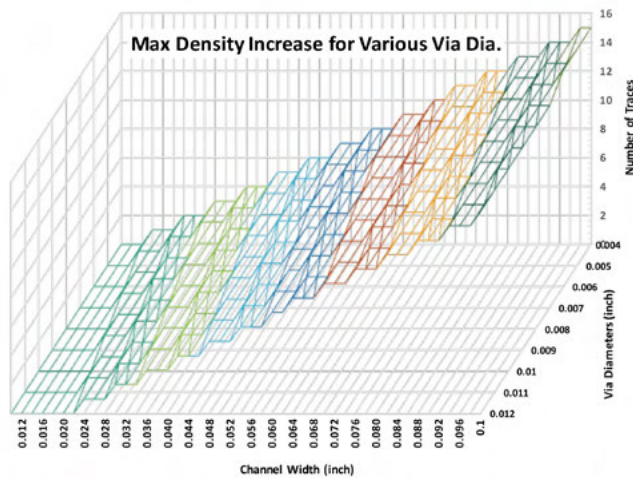

Figure 3: The maximum number of traces available for various routing channel widths as a function of via diameters when all the vias are landless.
If you reduce some of the variables in this equation (Eq.1), then the resulting routing density will go up by the percent indicated in Table 1. Figure 3 shows the opportunity for maximum density routing using 0.004 inch traces with 0.004 inch spacing and landless vias. The largest effect on density is reducing the trace width, but this can come with electrical issues; the second best way to increase density is to reduce the via's annular ring (AR), but a very small AR will signifi-